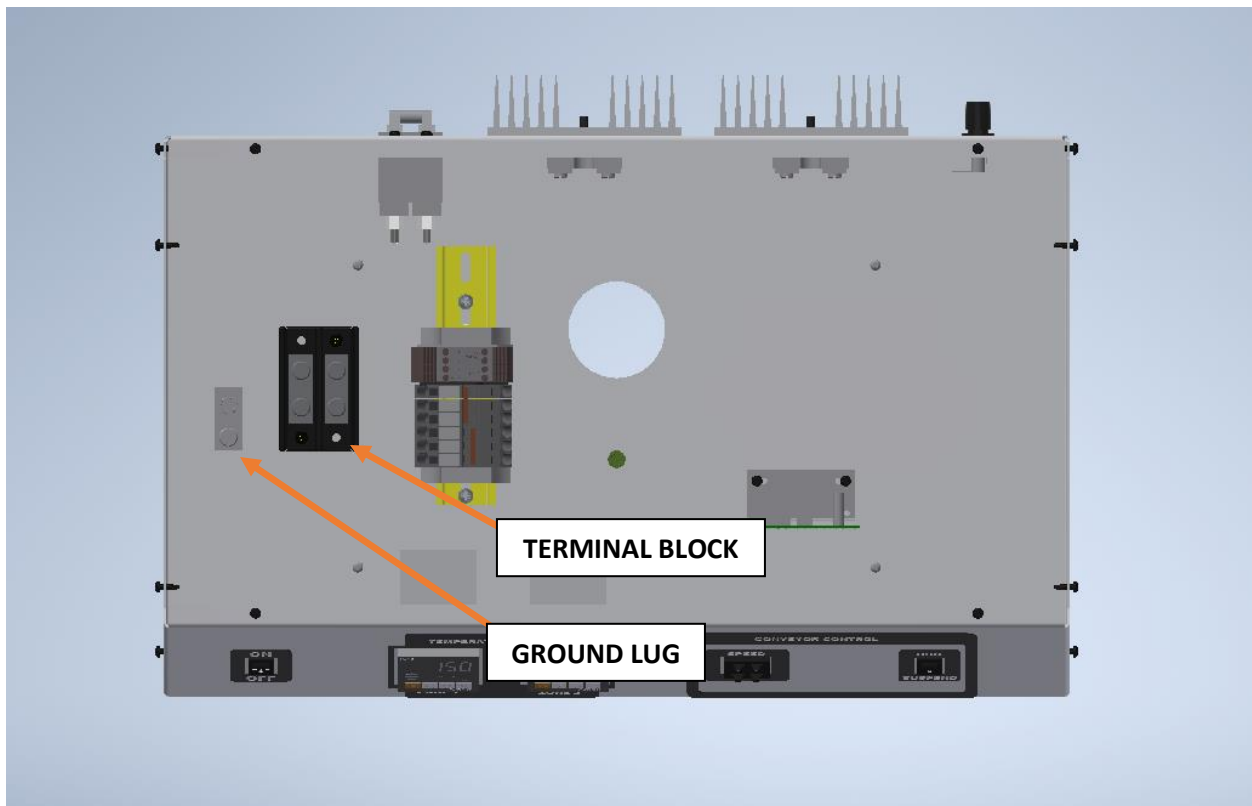

FIG. 2 – SINGLE PHASE Control Panel
4. Place the HOT leads into the open side of the large TERMINAL BLOCK and tighten set screws. BE SURE NOT TO CLOSE WIRE INSULATION IN TERMINAL BLOCK. (FIG. 2 & 3)